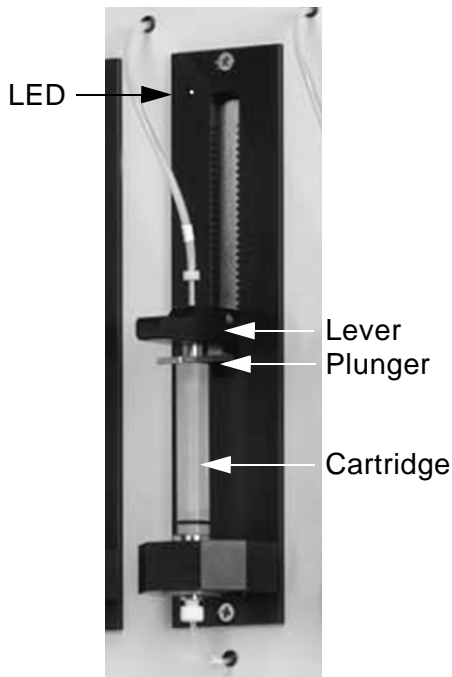

Figure 3-1. Cartridge Holder Front View
- b. Push down on the lever until the assembly “clicks” into place and the holder's LED comes on (see Figure 3-1).